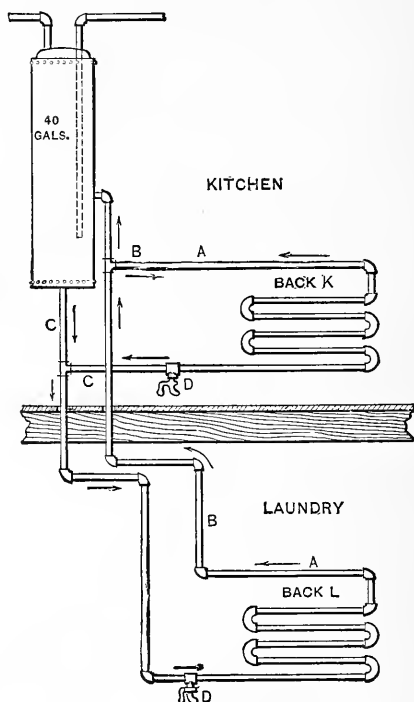
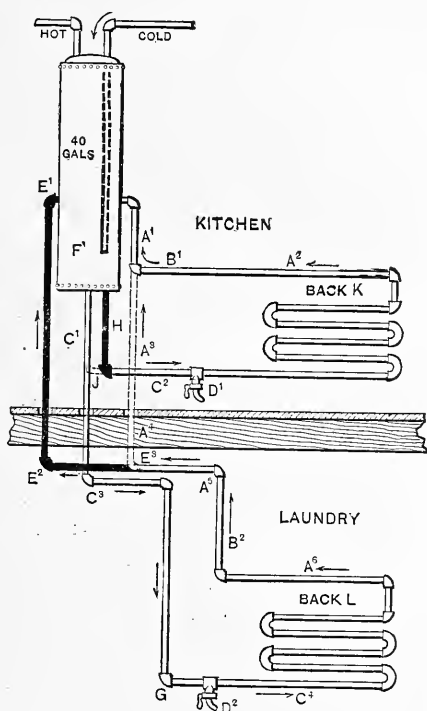

Fig. 1.—Sketch Submitted by "W. C. K."
Fig 2.—Proposed Change in Pipe Connections.
*From W. C. K., Oakland, Cal.*—Will you kindly inform me through the columns of *The Metal Worker* how to prevent the hammering and thumping of the pipes and boiler whenever the fire is started in either range illustrated in the accompanying sketch, Fig. 1? The hot water or upper pipes are marked A from the water back and run horizontally. I was thinking of putting a stop cock in the hot water pipes at the points marked B, to be stopped from the range which is not used while the other is used, but decided not to do so, thinking it might be forgotten when used, which would be worse than a hammering noise. The water backs are not choked up or filled, but have worked so from the beginning. The water backs and pipes leading to the boiler are  $\frac{3}{4}$  inch. The pipes marked C are cold water and D and D are sediment cocks.
*Answer.*—To simplify our answer to our correspondent's query we have reproduced his sketch, Fig. 1, and added another sketch, Fig. 2, with letters for reference, and in which the heavy black lines indicate the changes required and the dotted lines the existing arrangements. The arrows we have also introduced. To account for
First we will take the range in kitchen. When the fire in it only is started the heated water or water of less density or weight is forced up by gravity in the direction of the arrows along pipe A2, B1, Fig. 2, and up to A1, partially heating the water between A1 and A3.
perature of the fire increases, the relative temperature in pipe C2 (the temperature in C2 being always less than in A2) also increases and heats the descending column in C1 pipe, gradually reducing and impeding the supply of cold water from F to back L through pipe C1 C3 C4, because hot water does not circulate downward. Ultimately the circulation by means of hard firing may be confined to a short circuit in the pipes from back L, Fig. 2, upward through pipes A6, B2, A5, A4, A3 as the flow pipe, and downward through B1, A2, back K, C2, C3, G, C4 as the return pipe. On account of the short or impeded supply of cold water through C1 from F, because hot water will not circulate downward, steam is readily produced in back L, and its condensation as quickly as produced by the column of water which it is not powerful enough to remove produces the noise within the pipes.
The remedy, therefore, lies in a rearrangement of the pipes. The changes required are shown by heavy black lines on sketch, Fig. 2. It will be observed that the change in the pipes to back L is in the flow pipe and that to back K in the return pipe. The pipe A3 A4 on the flow pipe of back L is removed, and in its place the pipe E1 E2 E3 is used. The connection E1 need not be placed opposite connection A1, but it will be well to have both connections to hot water reservoir on or near the same level. The return pipe C2 to back K will be disconnected from return pipe C1 at J, and the pipe H used so as to connect the back K directly with the reservoir. By this arrangement it will be observed that the circulation between each back and the reservoir is independent, and that whichever back is used there is no circulation possible except through the one heated. Again, there is no circulation possible through the pipes and backs independent of the reservoir. The horizontal pipes will not materially affect circulation, but to insure against any possible dip or trap or improper inclination, it is always well to incline the horizontal pipes in the proper direction. The horizontal flow pipes should therefore incline upward from the backs to the reservoir, and the horizontal return pipes C2 and C4 may incline upward from points J and G to backs K and L respectively, the sediment cocks D1, D2 being placed at the lowest points, J and G.